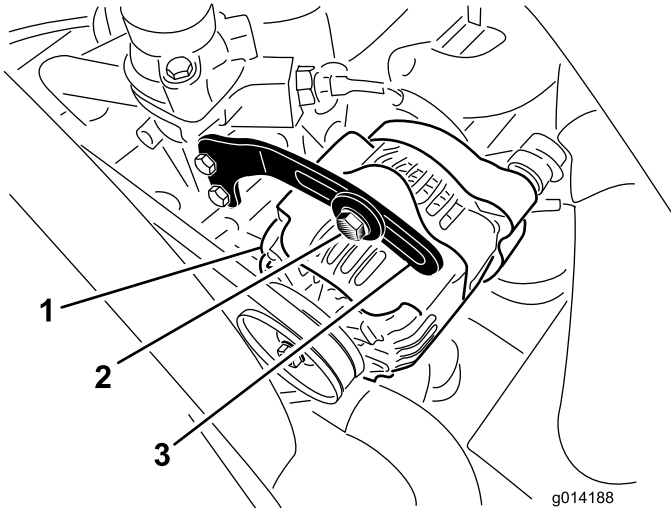

Figure 49
2. Check the tension of the alternator belt by depressing it (Figure 49) midway between the alternator and the crankshaft pulleys with 22 lb (10 kg) of force.
3. Loosen the bolt securing the brace to the alternator (Figure 49), and the alternator pivot bolt.